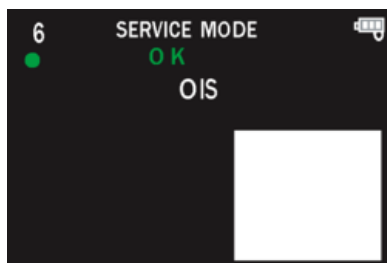

Fig. 3-4
4. When the adjustment is completed successfully, adjustment report menu appears with Green OK on the LCD monitor. (Refer to Fig.3-4)